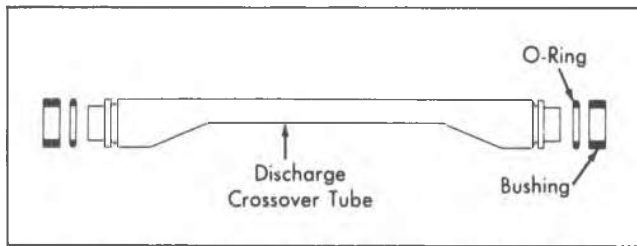

Fig. 52--Service-Type A-6 Discharge Cross-Over Tube
5. Without installing any O-rings or bushings, assemble one end of the new Service discharge cross-over tube into the hole in the front cylinder half (Fig. 52 and 53).
2. Now install new O-ring and bushing on **front-end** of discharge cross-over tube (Fig. 56). The O-ring and bushing are Service parts only for internal mechanisms that have been disassembled in the field (see Fig. 52).
15. Install new O-ring and bushing on **rear-end** of discharge cross-over tube (See Fig. 52).